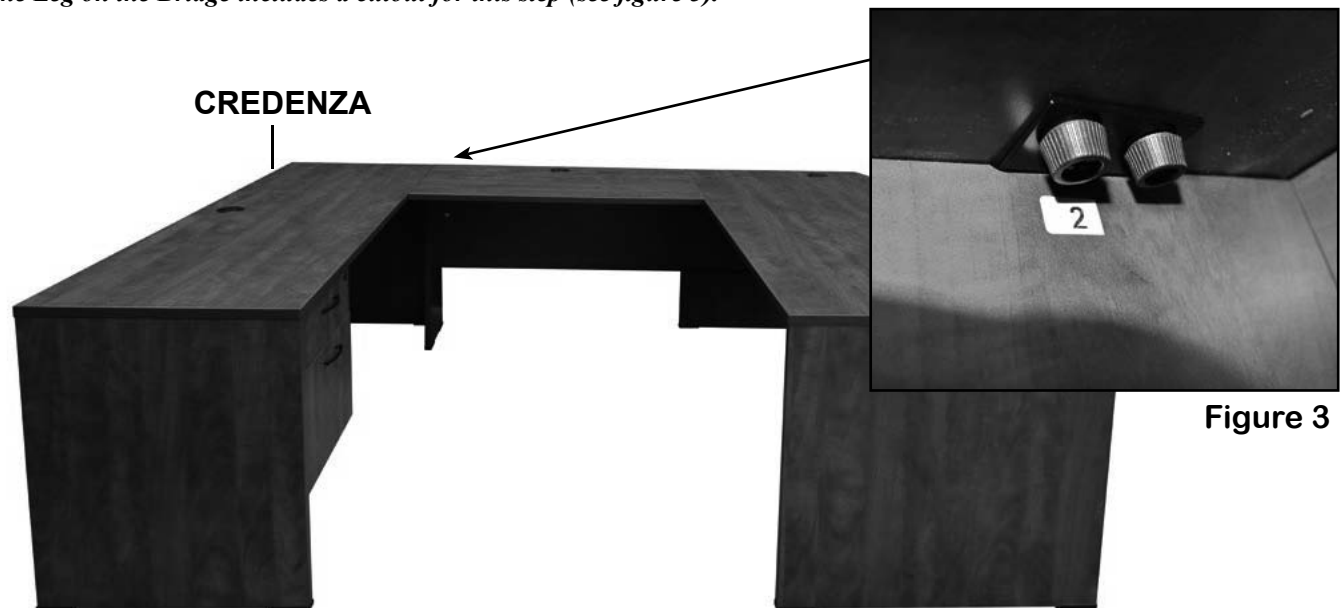

Figure 3
**STEP 4 :** Attach Credenza to the Bridge using 2 Flat Brackets(D) and 8 Thumb Screws(E).
*Note: The Leg on the Bridge includes a cutout for this step (see figure 3).*